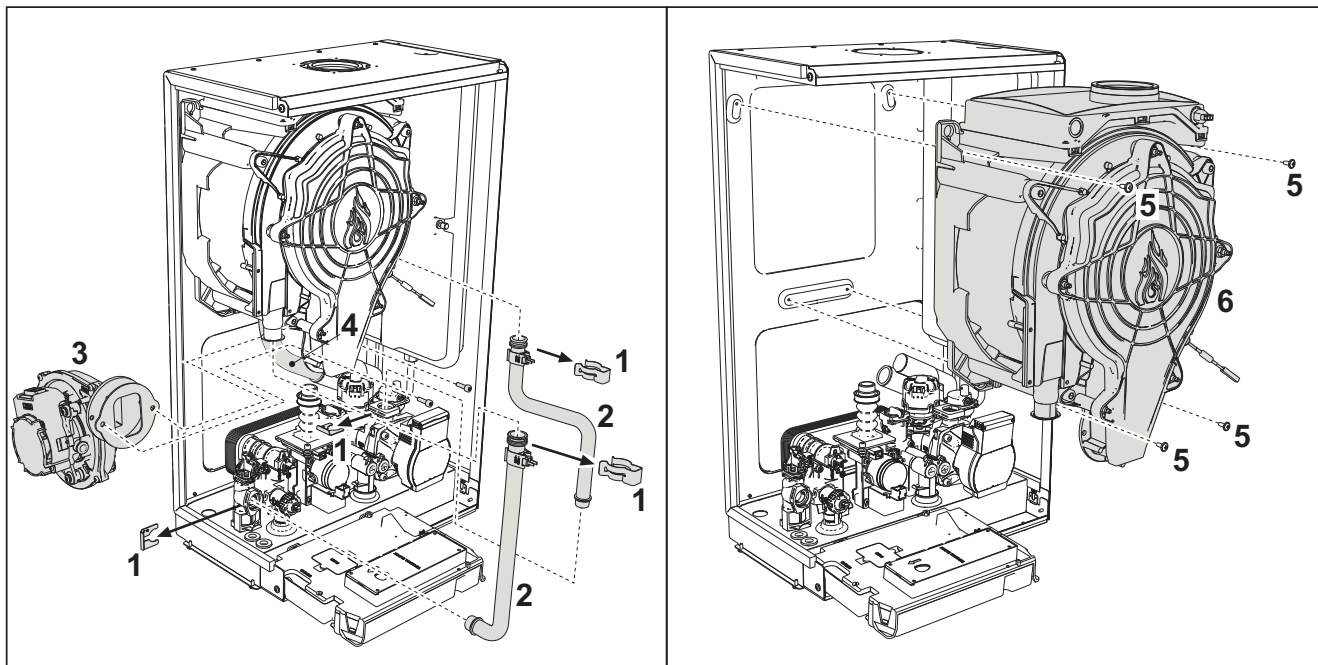

fig. 41- Main exchanger
- Remove the 2 top **screws "5"** securing the exchanger to the frame (fig. 41)
- Loosen the 2 bottom **screws "5"** securing the exchanger to the frame (fig. 41)